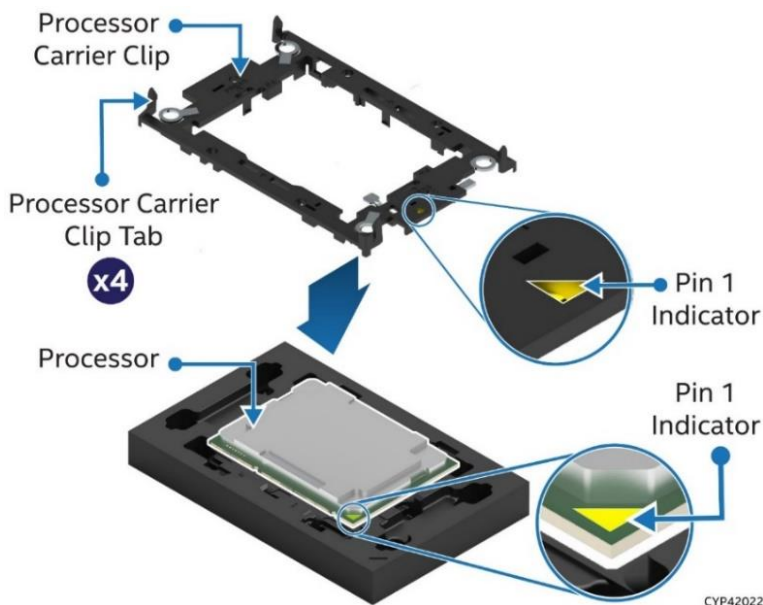

Figure 9. Installing Processor Carrier Clip onto Processor – Part 1
1. Orient and align the processor carrier clip to the processor (see Figure 9)